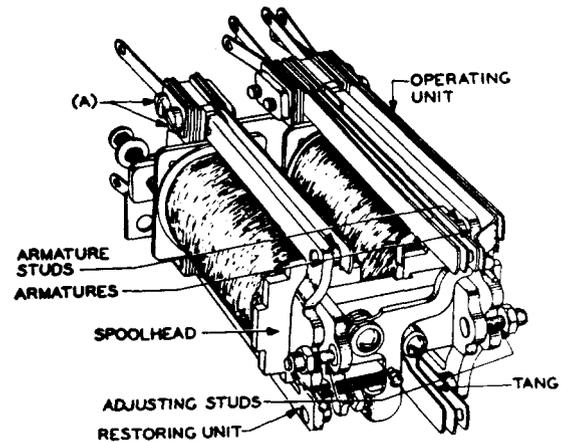

Fig. 101
2.03 **Tightness of Assembly:** Fig. 101(A) —